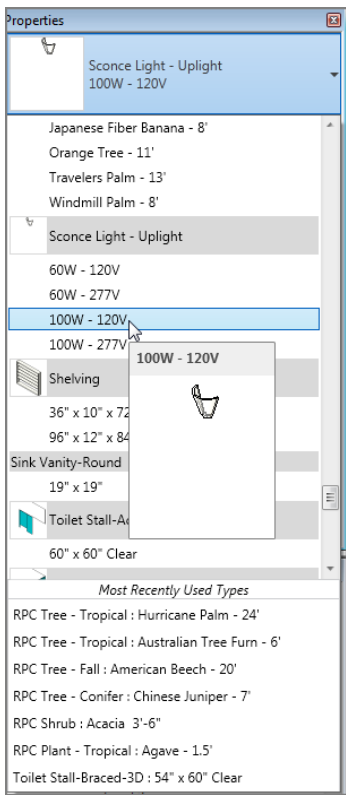

FIGURE 19.11: Choosing the sconce
10. In the Properties dialog box, choose the Sconce Light - Uplight 100W - 120V (or equivalent) family, as shown in Figure 19.11.